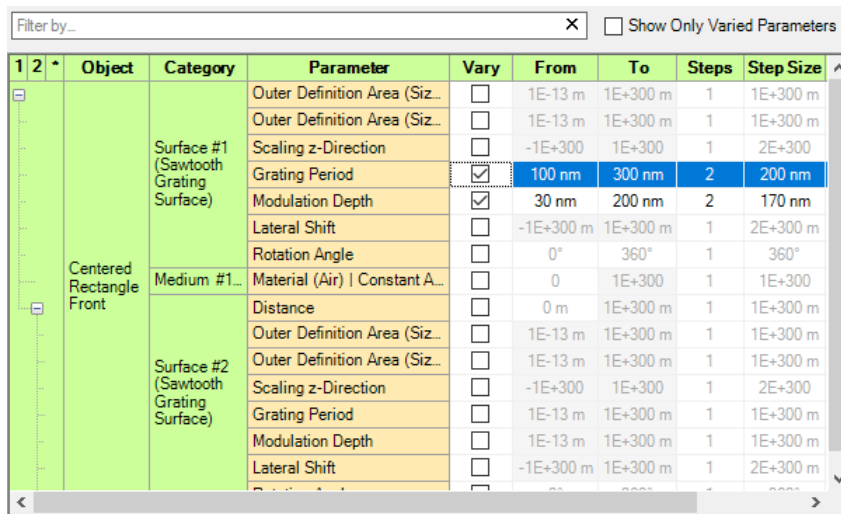

Figure 711. The control to configure the variation of grating parameters.
The control shown in Fig. 711 allows you to select one or two grating parameters which you want to *Vary*. For these parameters you can define the value range by setting the start (*From*) and end (*To*) value. The default *From* and *To* values for all parameters are their absolute minimum and maximum values – you must not enter a value outside of this range. It is possible to enter a *To* value which is smaller than the *From* value. Furthermore you can enter either the number of *Steps* (which are not necessarily identical) or the *Step Size*. The defined value range(s) are then scanned with the resulting number of steps. See Sec. 44.2.3 for details. The first column allows you to collapse/expand all parameters of one *Category*. Simply click on the and symbols, respectively. At the top of this column you can select to collapse all levels (1), collapse only the *Category* level (2) or show all levels (*).